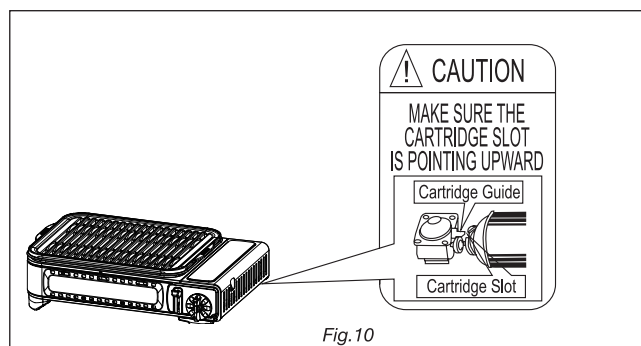

Fig. 10
3. Place the cartridge into the compartment. Align the cartridge properly by inserting the cartridge guide tab of the unit into the cartridge slot on the rim of the canister. (Fig. 10)